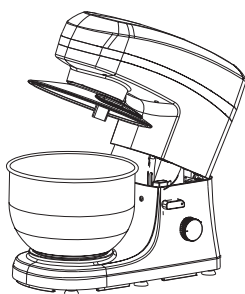

Fig. 5
3. Attach the splashguard if using (7), see below on how to attach. See Fig 5.